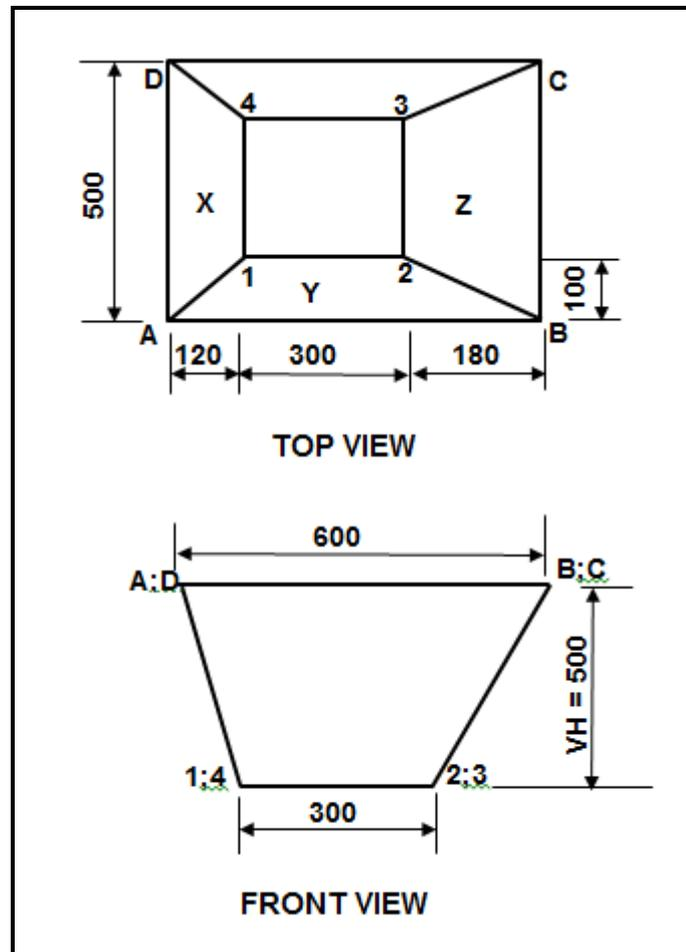

FIGURE 11.1
11.1 FIGURE 11.1 below shows an off-centre square to rectangular hopper.